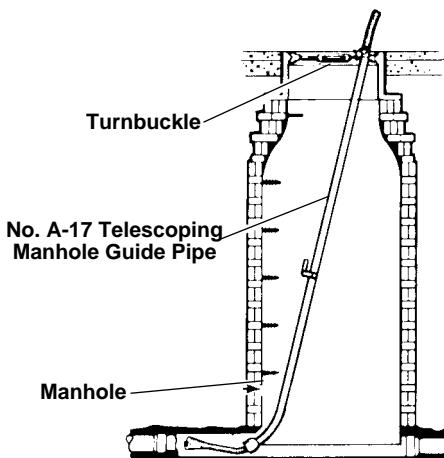

Figure 4 – Telescoping Manhole Guide Pipe
10. Set telescoping manhole guide pipe (*Figure 4*) for depth of manhole. Place turnbuckle into manhole opening.